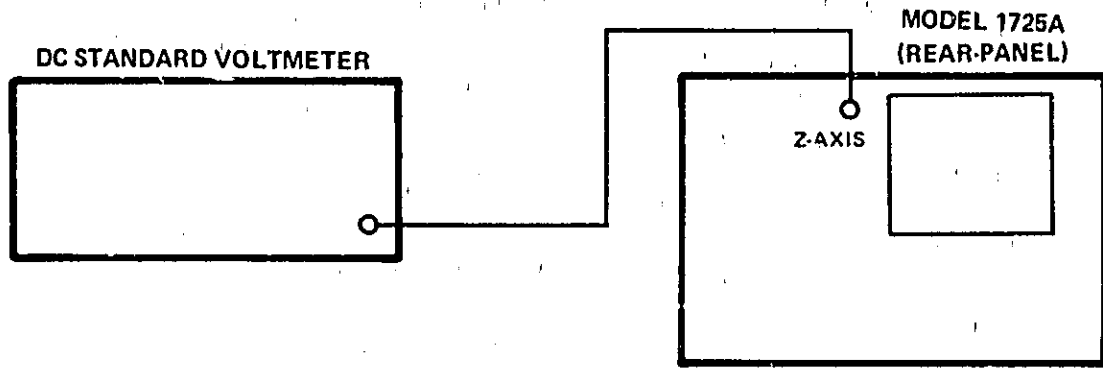

Figure 5-3. Z-axis Blanking Test Setup
c. Connect equipment as shown in figure 5-3.